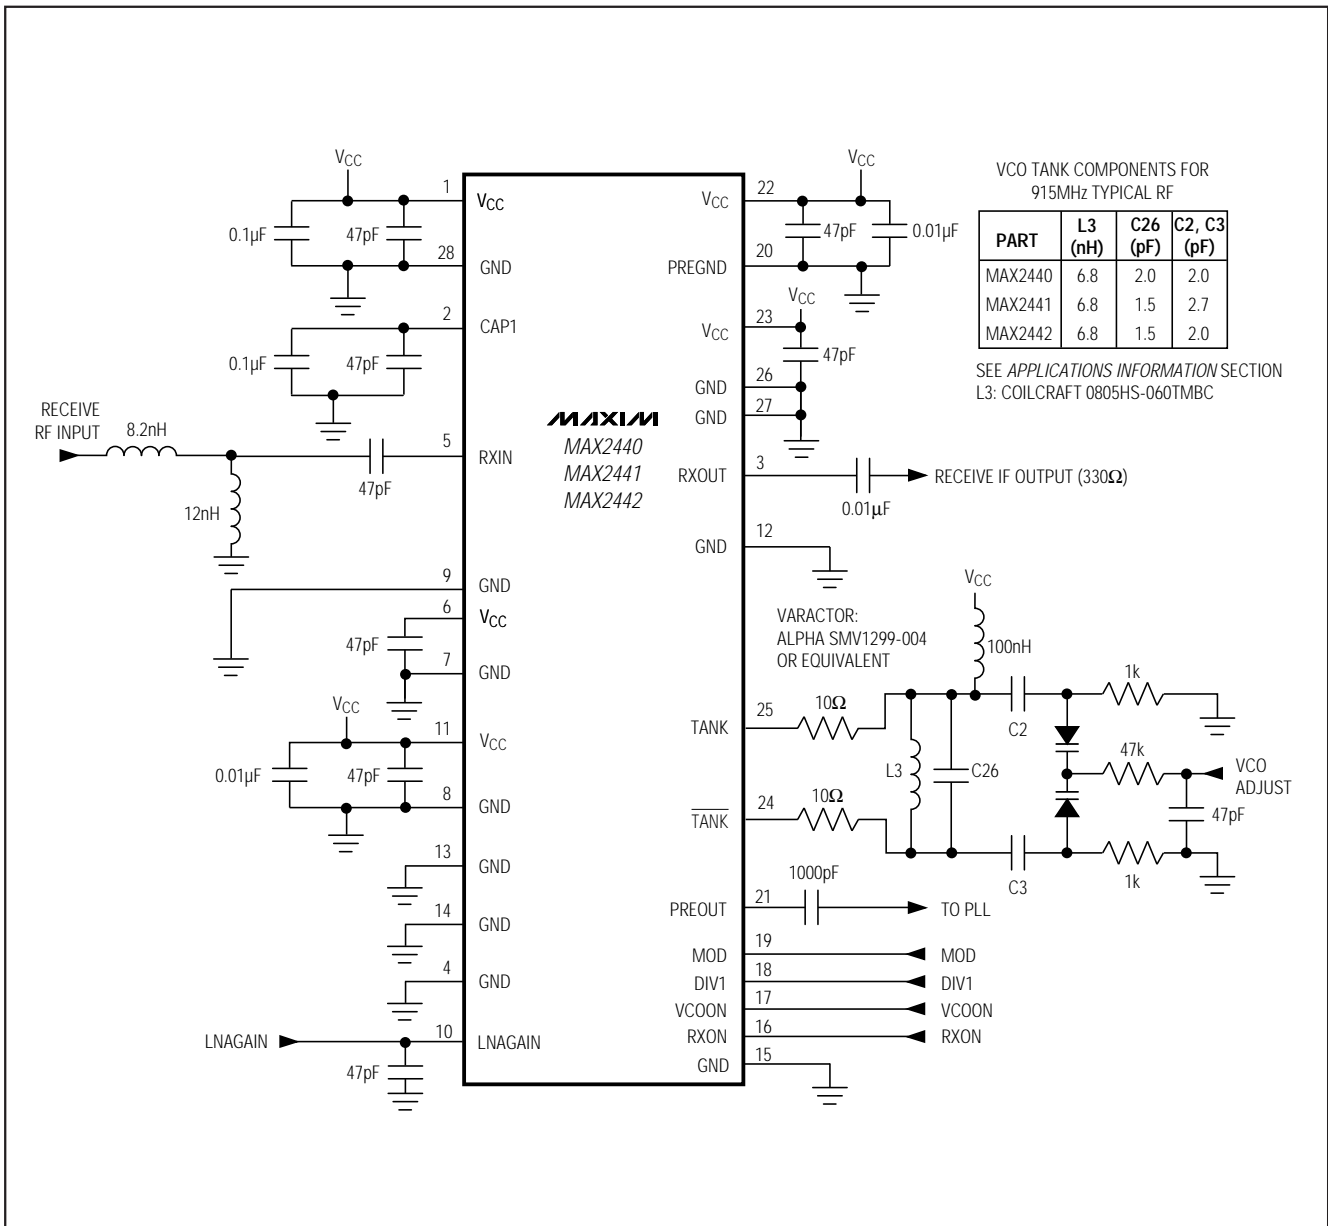

Figure 1. Typical Operating Circuit
**Note 9:** Refers to useable operating range. Tuning range of any given tank circuit design is typically much narrower (refer to Figure 1).
**Note 10:** Using tank components shown in Figure 1.